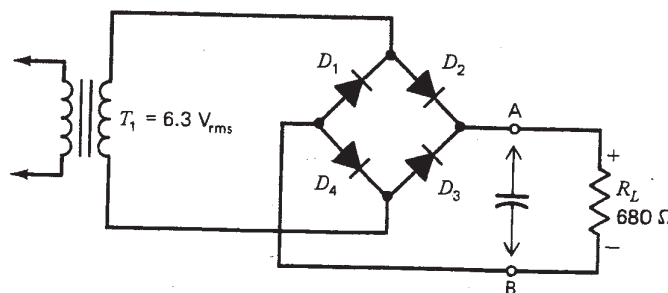

Fig. 55-2. Full-wave bridge circuit.
6. Connect the full-wave rectification bridge circuit of Fig. 55-2.
7. Repeat steps 2 to 5 for the full-wave rectifier bridge of Fig. 55-2.